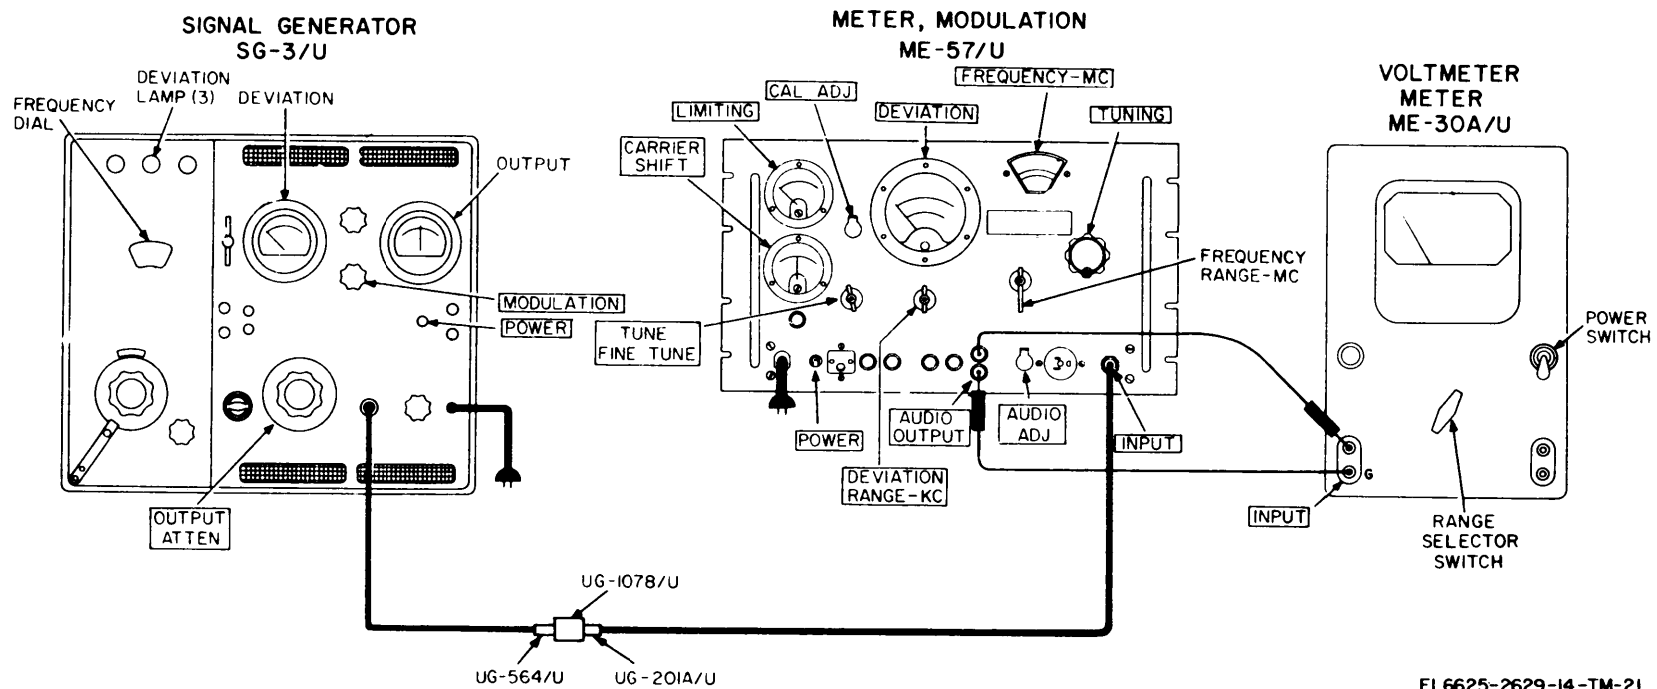

Figure 7-14. Sensitivity check, test connections.
(1) Signal Generator AN/URM-70
(2) Electronic Voltmeter ME-30B/U/
*b. Test Connections and Conditions.* Connect the equipment as shown in figure 7-14.